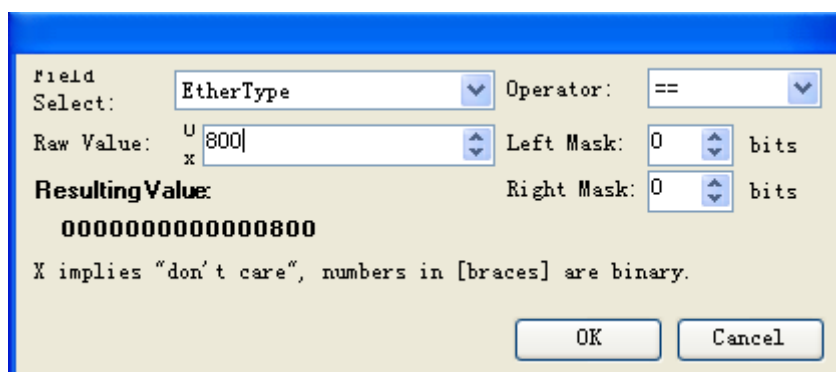

Figure 8-8 Add Clauses
- h. In the display part of Rule Clauses, click Add to display the Clause window. click the drop-down menu of the arrow button and create a Clause as required, such as EtherType=0x0800 shown in the Figure 8-8;